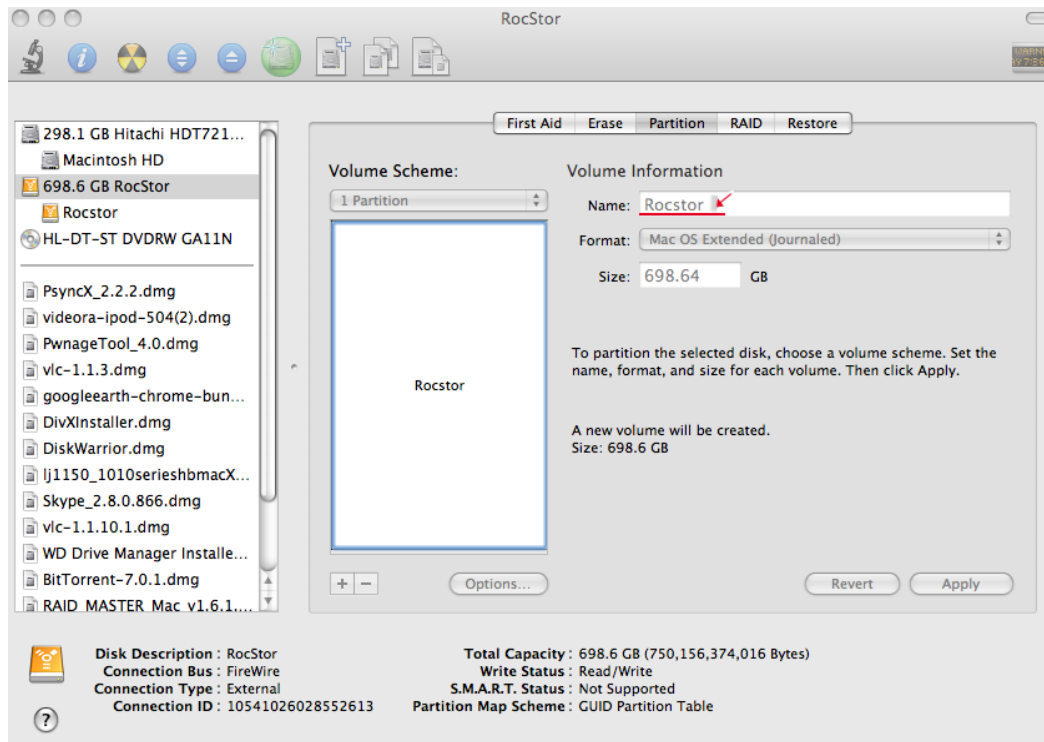

Figure 7.0
12. Volume Information: select a name for your drive (figure 7.0)